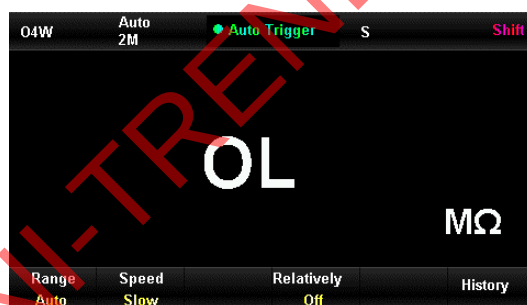

Figure 2-15 Interface of 4-wire resistance measurement
- 1) Press **[Shift]** button, and then press **[0.2W]** button to enter interface of 4-wire resistance measurement, as Figure 2-15.